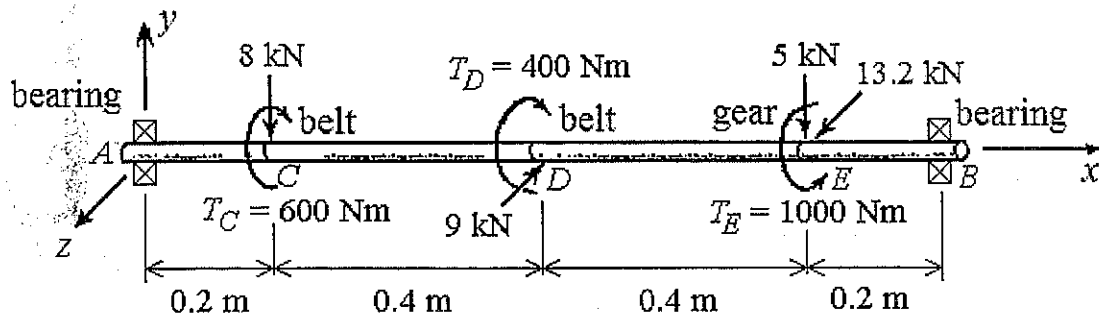

Figure 2
2. Power is transmitted from a motor through a gear E to the pulleys at D and C of a rotating solid shaft AB with machined surface, as shown in Figure 2. The shaft is mounted on bearings at the ends A and B . Figure 2 also shows the magnitude and direction of gear and belt forces and torques acting on the shaft at the respective points. Note that the shaft is made of steel with an ultimate strength of 810 MPa, a yield strength of 605 MPa, and its material endurance strength is given by the relationship $s_n = 0.37s_u$. The stress concentration factor is taken as 1.5 for points C , D , and E of the shaft.